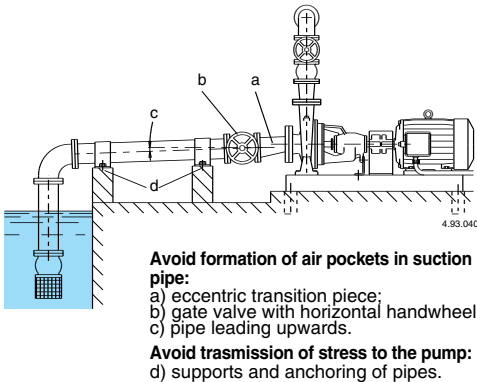
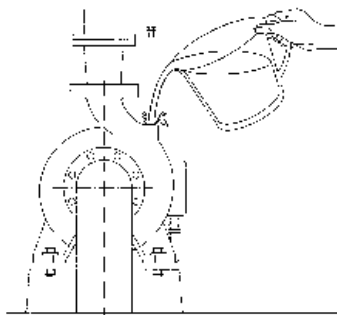

Fig. 4 Connection of pipes.
Fig. 8 Filling.
Use an eccentric transition piece to join the suction connection with a horizontal pipe of larger diameter (fig. 4).
**Do not use the pump to support pipes.** Pipes must be anchored on their own supports (fig. 4).
**When the pump is located above the water level** (suction lift operation, **fig. 4**) or with a positive suction head which is too low (less than 1 m) to open the non-return valve, fill the suction pipe and the pump through the priming hole (**fig. 8**). Replace threaded plug after each operation.